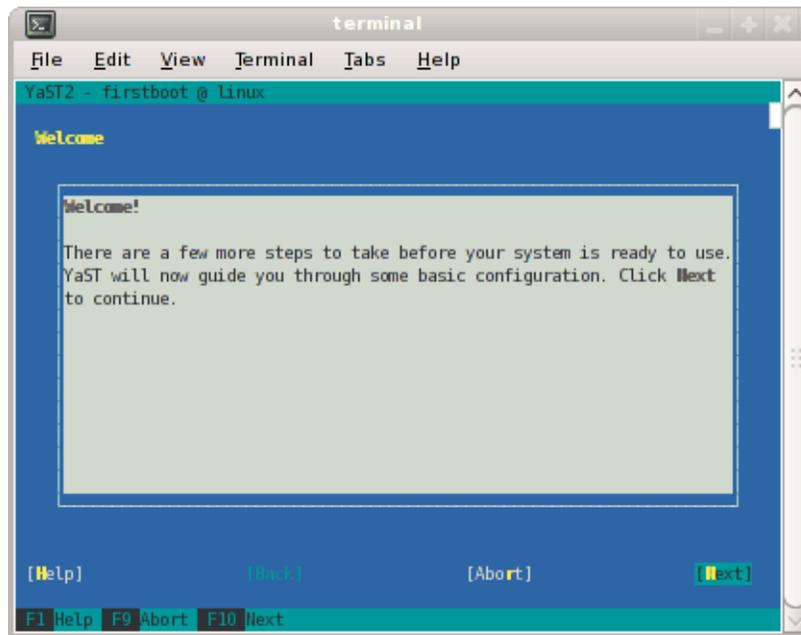

Figure 1-3 YaST2 - firstboot@Linux Welcome Screen
4. After the reboot completes, you will eventually see the **YaST2 - firstboot@Linux Welcome** screen, as shown in Figure 1-3 on page 4. Select the **Next** button to continue.